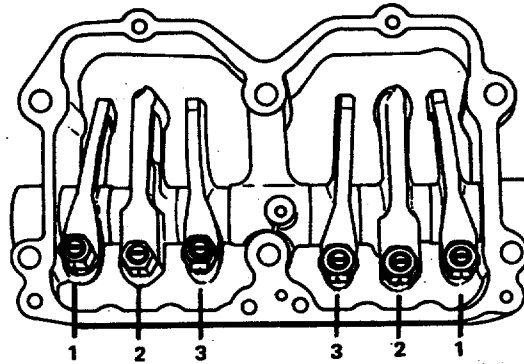

FIGURE 3-20. *Identifying Rocker Levers.*
- (f) Each cylinder has three rocker levers. The rocker lever nearest to the center of the housing is the intake lever (3, FIGURE 3-20), the exhaust lever is (1), and the injector lever is (2).